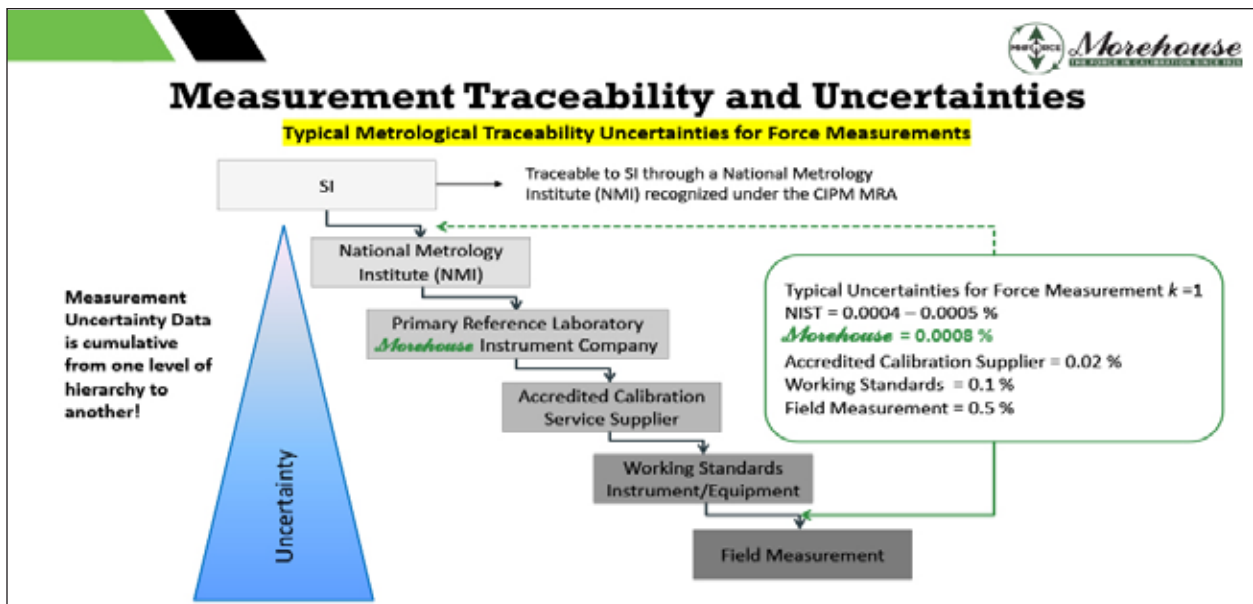

Figure 1. Metrological Traceability Pyramid for Force Measurements
The International System of Units (SI) is at the top of the measurement hierarchy pyramid (Figure 1). The next tier in the pyramid is a National Metrology Institute (NMI) such as the National Institute of Standards and Technology (NIST), which is recognized by the International Committee for Weights and Measures (CIPM) and has derived its capability from these base SI units of better than 0.0005 %.
likely becomes. Figure 1 shows that the further away from SI units, the more significant the uncertainty. For example, field measurement is six steps away from SI. Measurement uncertainties get larger at each level and end at a standard uncertainty of 0.5 %. If we try to build this pyramid using TAR, what happens? Can it work?